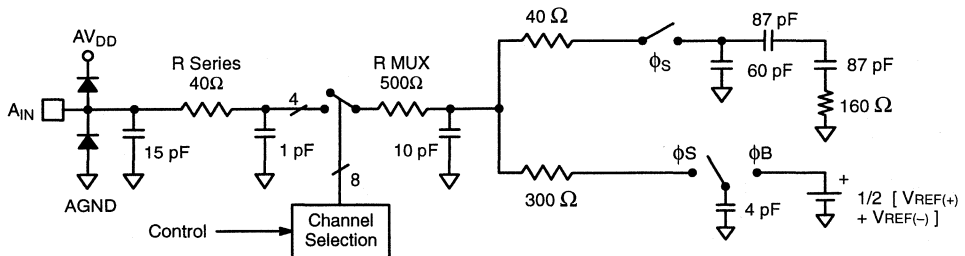

Figure 9. Analog Input Equivalent Circuit
- See V_{IN} input equivalent circuit (see Figure 9).